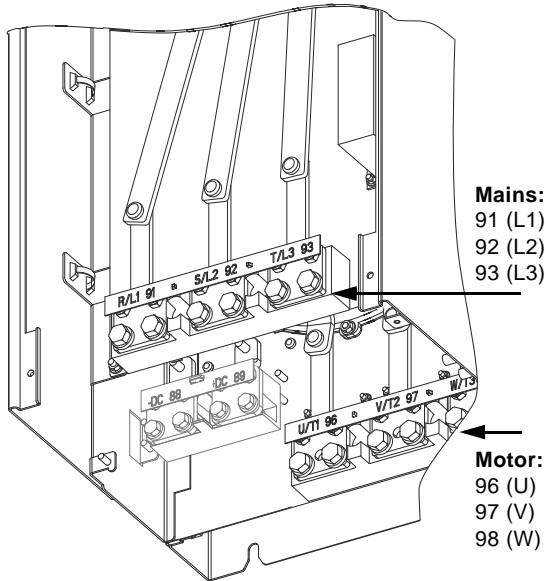

Fig. 15 Mains and motor connection
2. Connect the motor conductors to the terminals 96 (U), 97 (V), 98 (W). See fig. 15.
2. Connect the mains conductors to the terminals 91 (L1), 92 (L2), 93 (L3). See fig. 15.